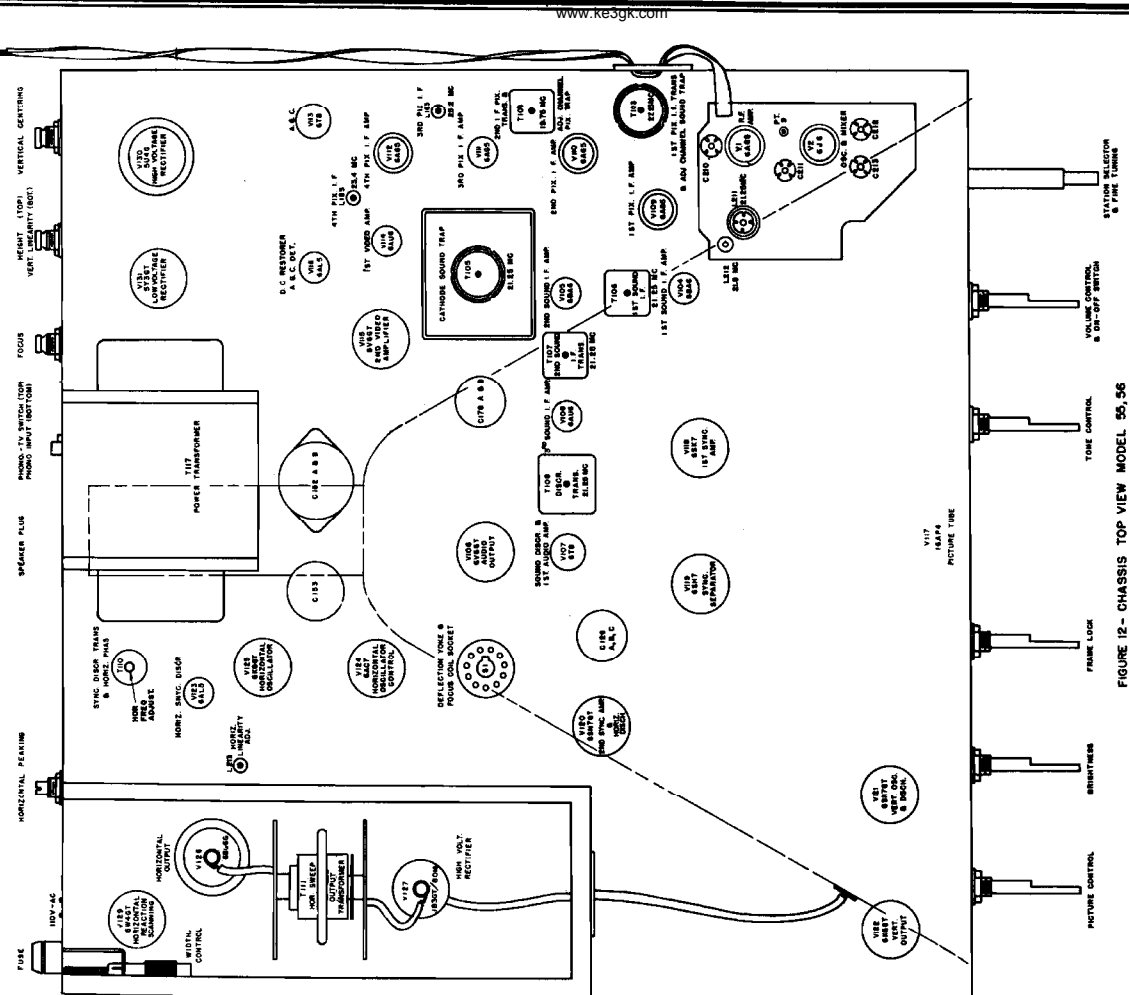

FIGURE 12- CHASSIS TOP VIEW MODEL 55, 56
7. Check of Horizontal Sync. Alignment (See Fig. 12)
Standard TV Tuner - Model 55 and 56 - (See Figures 12 and 13)
2. Connect oscilloscope through 10,000 ohms to test point 9 (wire loop on top of tase - Figure 12).
5. Adjust C210, C211, C212 (Figure 12) for flat top response curve. Check markers on all channels. They should fall in atomically on all channels.